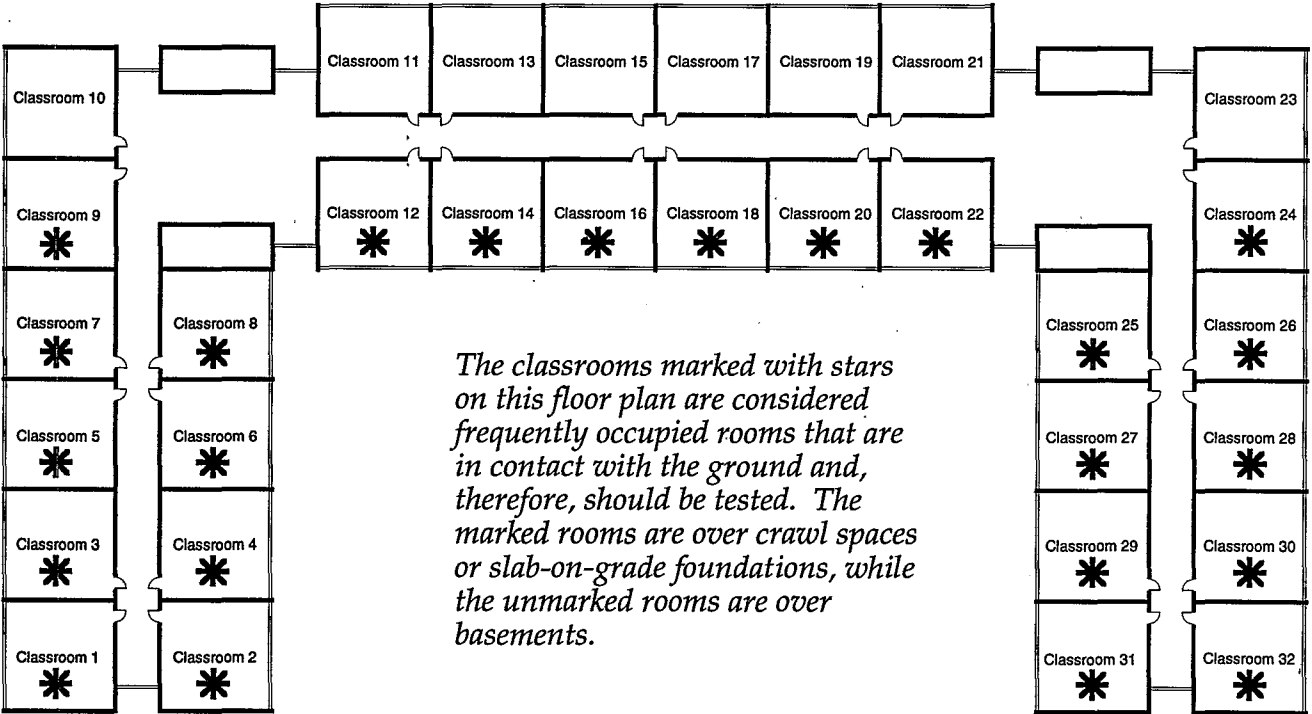

Figure 5-1: Floor plan of school.
1. Mark which rooms on the floor plan in Figure 5-1 will have duplicate measurements. The classrooms marked with stars on this floor plan are considered frequently occupied rooms that are in contact with the ground and, therefore, should be tested. (Suggestion: Make a duplicate measurement for every ten measurement locations—i.e., 10% of all testing locations. If you have extra rooms after assigning duplicate detectors at a rate of one per 10 measurement locations, add one additional duplicate detector.)
2. For Figure 5-1, randomly assign (but do not place) blank devices to rooms that are frequently occupied and in contact with the ground (rooms with stars) that do not contain duplicate measurements. Remember that you do not use these devices to test any room. However, you do remove them from their packaging and then immediately reseal them to give them the appearance they have been used. How many blank devices are required for the school in Figure 5-1? (Suggestion: Assign a blank measurement for every twenty measurement locations. If you have extra rooms remaining after assigning blank detectors at a rate of one per 20 rooms, add one additional blank detector.)
1. Mark which rooms on the floor plan in Figure 5-1 will have duplicate measurements. The classrooms marked with stars on this floor plan are considered frequently occupied rooms that are in contact with the ground and, therefore, should be tested. *(Suggestion: Make a duplicate measurement for every ten measurement locations—i.e., 10% of all testing locations. If you have extra rooms after assigning duplicate detectors at a rate of one per 10 measurement locations, add one additional duplicate detector.)*
2. For Figure 5-1, randomly assign (but do not place) blank devices to rooms that are frequently occupied and in contact with the ground (rooms with stars) that do not contain duplicate measurements. Remember that you do not use these devices to test any room. However, you do remove them from their packaging and then immediately reseal them to give them the appearance they have been used. How many blank devices are required for the school in Figure 5-1? *(Suggestion: Assign a blank measurement for every twenty measurement locations. If you have extra rooms remaining after assigning blank detectors at a rate of one per 20 rooms, add one additional blank detector.)*
SCHOOL: \_\_\_\_\_ Figure 5-1 \_\_\_\_\_